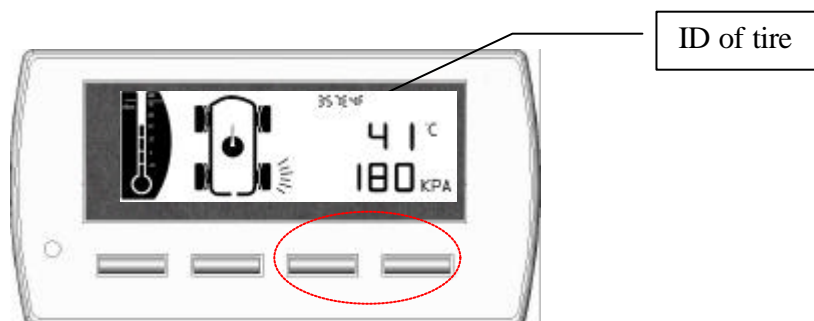

Figure 6 Panel display when read out parameters of tire 3
**Select different tire information to read:** you can check all recorded tire parameters by press Key 3. Each single press on Key 3 can call one tire parameters out, including temperature, pressure, and identification code, as shown on figure 6. Continually press on Key 3 can read tire parameters one by one.